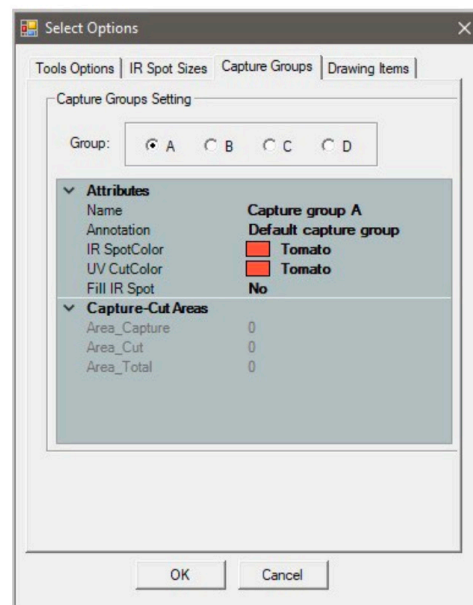

Figure 26
2. Click the **Capture Groups** tab (see Figure 26).